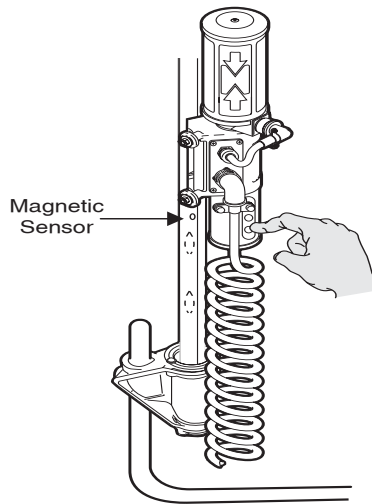

Figure 9-5. Attach Laser Tracker System to Machine
5. Raise the Trackerjack until its magnetic pickup sensor is above the magnet at the bottom of the pole (Figure 9-5 on page 9-5). The magnets at the top and bottom of the pole keep the Trackerjack on the pole.